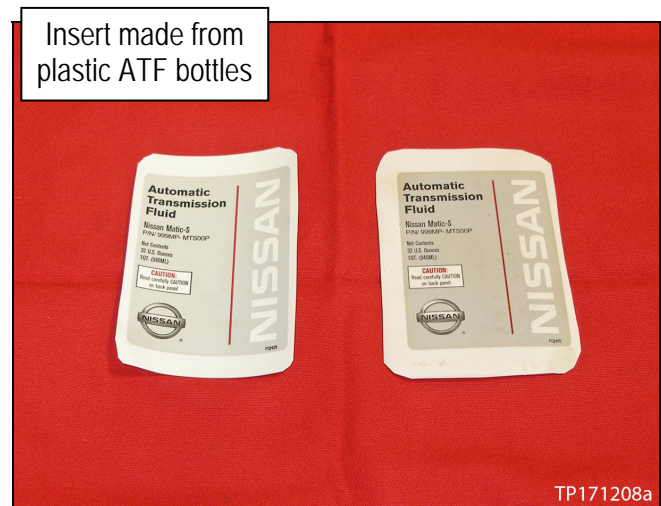

Figure 12
- See Figure 12 for samples of plastic inserts.
- Examples of plastic inserts shown in Figure 12 can be used.